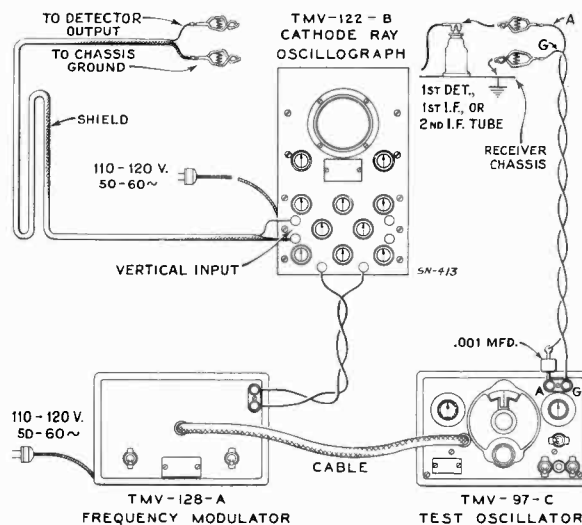
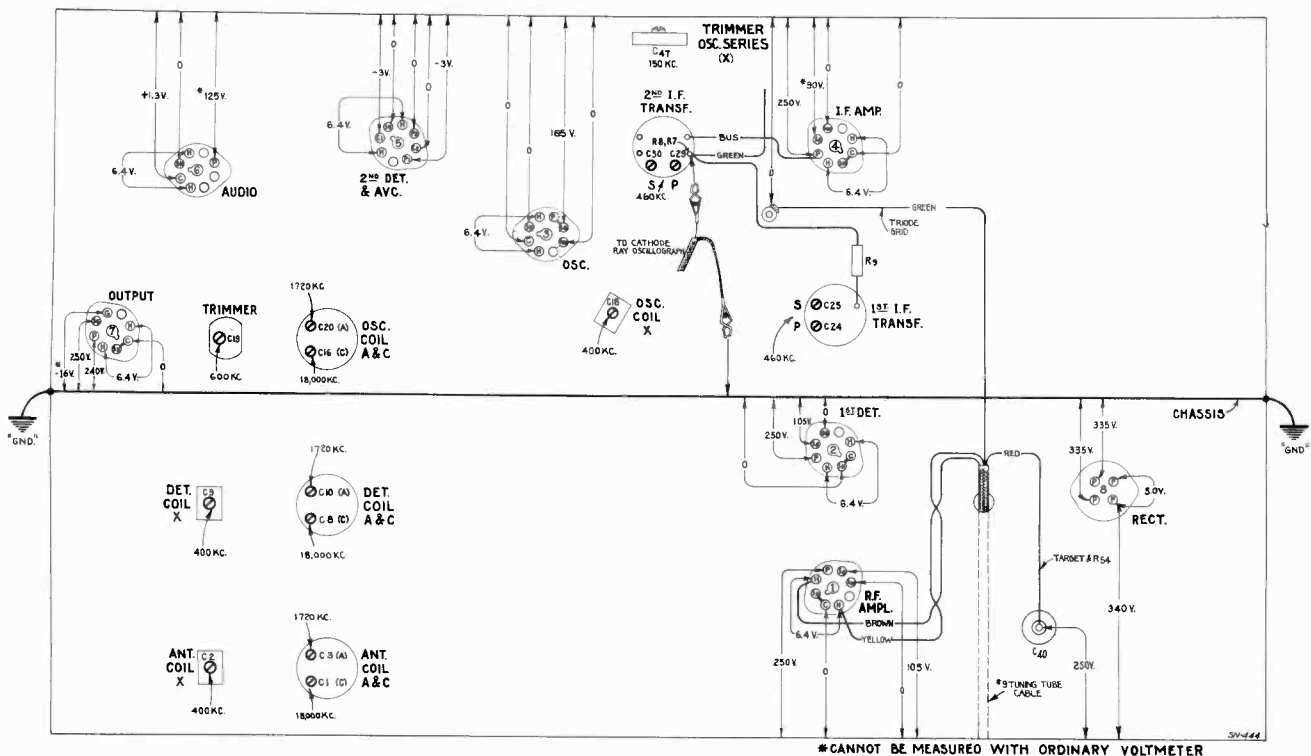

Figure 4—Alignment Apparatus Connections
Figure 6—Radiotron Socket Voltages and Trimmer Locations
The four trimmers of the two i-f transformers are located as shown by Figure 6. Each must be aligned to a basic frequency of 460 kc. The last transformer must be aligned firstly and the first transformer aligned secondly. For such a process, it is necessary to feed the output of the Full-Range Oscillator to the stages in their order of alignment, adjusting the trimmers of each transformer and observing the effect at the second detector output on the Cathode-Ray Oscillograph. The proper point of connection of the Oscillograph is with its vertical "high" input terminal attached to the junction of R-7, R8 and R9 as illustrated in Figure 6, and with the "0" or ground terminal to the chassis. The "Ext. Sync." terminals of the Frequency Modulator should be connected to the Frequency Modulator as shown by Figure 4. A .001 mfd. capacitor installed in series with the Oscillator "Ant." lead will prevent the voltages of the stage under alignment from becoming upset. The vertical "A" amplifier should be "On" for the ensuing adjustments and the gain control kept at its maximum position. For each adjustment, the Oscillator output need be regulated so that the image obtained on the
- (b) Attach the output of the test Oscillator between the control grid cap of the RCA-6K7 i-f tube and chassis ground as shown typically by Figure 4. Tune the Oscillator to 460 kc. and set its modulation switch to "On". Regulate its output until the signal produces a wave pattern on the Oscillograph screen, adjusting the Oscillograph controls to give the desired number of cycles. Cause the image to stand still on the screen by manipulation of the frequency and synchronizing controls. Then carefully tune the two trimmers C-29 and C-30 of the second i-f transformer to produce maximum amplitude (vertical deflection) of the oscillographic image. Under this condition the transformer will be sharply resonated to 460 kc.
- (c) The Frequency Modulator should then be placed in operation and interconnected with the Full-Range Oscillator by means of the special shielded patch cord. Figure 4 shows the proper arrangement. Set the Frequency Modulator sweep range switch to its "Lo" position and turn the Oscillator modulation switch to "Off". Change the timing control of the Oscillograph to "Ext." and place the range switch to its No. 2 position. Then carefully shift the tuning of the Oscillator so as to increase its frequency, until two distinct and similar waves appear on the Oscillograph screen and become exactly coincident at their highest points. These curves will be found to occur at an Oscillator setting of *approximately* 540 kc. They will be identical in shape but appearing in reversed positions. Adjust the frequency control of the Oscillograph in order to cause the waves to conform with the above requirements and to make them remain motionless on the screen. This will require a setting of approximately  $\frac{1}{2}$  clockwise rotation of the frequency control. The trimmers C-29 and C-30 should then be re-adjusted so that the two curves move together and become exactly coincident throughout their lengths, maintaining the maximum amplitude at which this condition can be brought about.
Locations of the various antenna, detector and oscillator coil trimmers are shown by Figure 6. The test Oscillator should be removed from connection with the i-f system and its output connected to the antenna-ground terminals of the receiver. No changes are to be made in the connections of the Oscillograph at the second detector. During the following
Oscillograph on "Int." for this operation. After each trimmer has been peaked, the Oscillograph timing control should be set to "Ext." and the Frequency Modulator placed into operation with its connections to the Oscillator and Oscillograph made in accordance with Figure 4. Turn the modulation switch of the Oscillator to "Off" and retune the Oscillator (increase frequency) until the forward and reverse waves show on the Oscillograph and become coincident at their highest points. Adjust the trimmers C-20, C-10 and C-3 again, setting each to the point which produces the best coincidence and maximum amplitude of the wave images.
The voltage values indicated from the Radiotron socket contacts to chassis on Figure 6 will serve to assist in the location of causes for faulty operation. Each value as specified should hold within  $\pm 20\%$  when the receiver is normally operative at its rated supply voltage. Variations in excess of this limit will usually be indicative of trouble in the basic circuits. The voltages given are actual operating values and do not allow for inaccuracies which may be caused by the loading effect of a voltmeter's internal resistance.